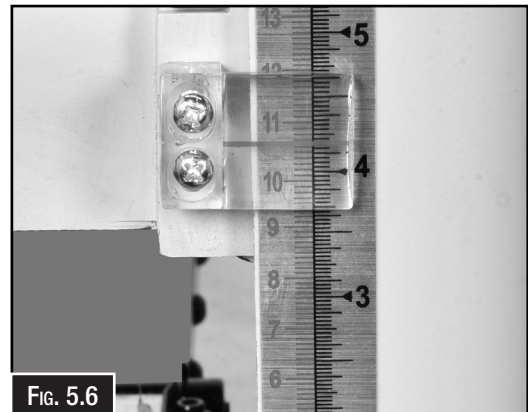

Fig. 5.6
**Thickness Scale:** The Depth of cut can also be read directly from the inch/millimeter scale on the front of the thicknesser, as shown. (Fig. 5.6)